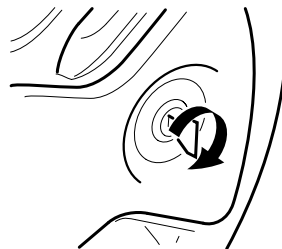

Fig. 9
- Remove friction pads. (Fig. 9)
- Hold the lock fast and lock. (Fig. 9)